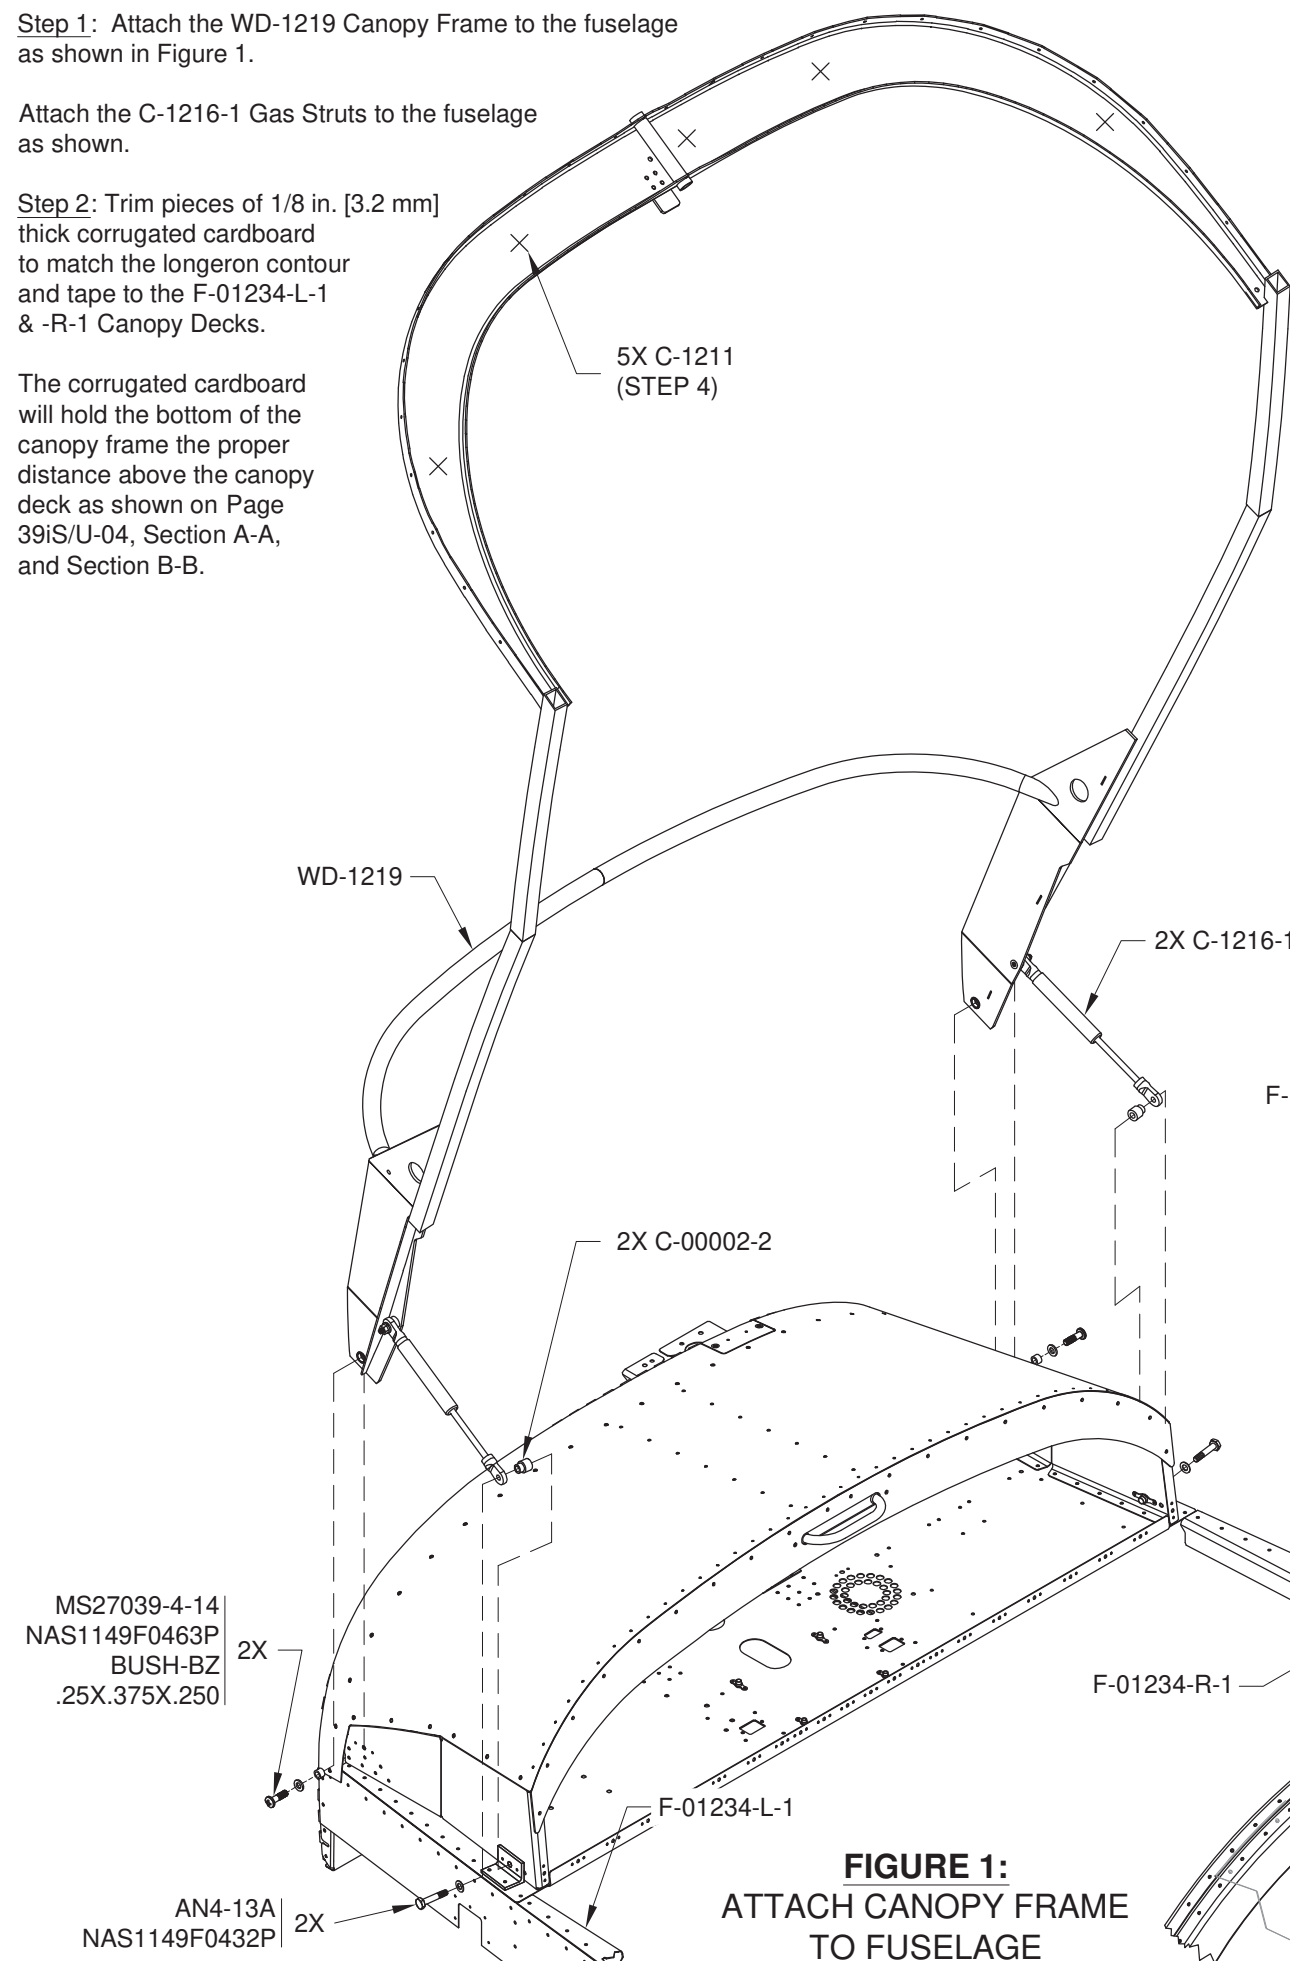

FIGURE 1:
Step 1: Attach the WD-1219 Canopy Frame to the fuselage as shown in Figure 1.